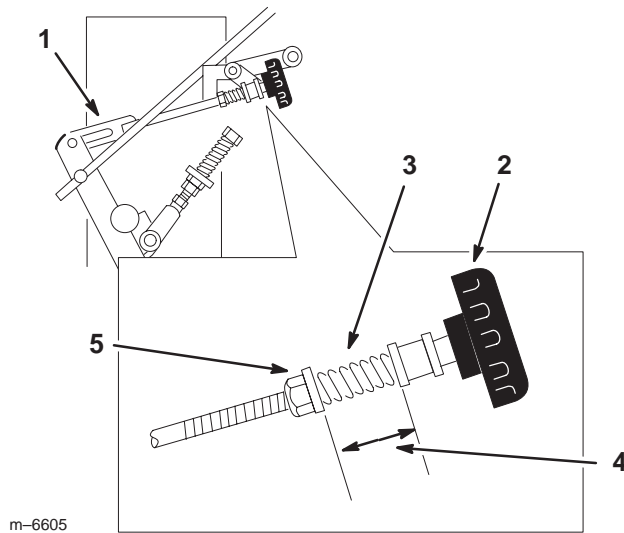

Figure 47
4. Adjust the right side linkage by turning the quick track knob counterclockwise until the tire begins to rotate forward (Fig. 47).
5. Turn the knob clockwise 1/4 of a turn at a time. Then move the speed control forward and back to neutral. Repeat this until right wheel stops rotating forward (Fig. 47).
6. The spring that keeps tension on the knob should normally not need adjustment. However, if adjustment is needed, adjust the length of the spring to 1 inch (26 mm) between the washers (Fig. 47).
7. Adjust spring length by turning the nut at the **front** of the spring (Fig. 47).